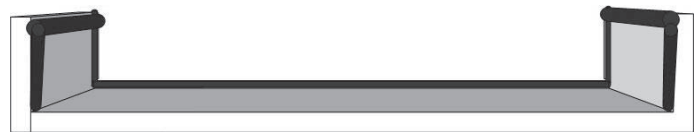

Figure 2
4) Run a continuous 3/8" bead of sealant along the inside edge of the sub sill (where it will meet the inside edge of the door and/or sidelite). Run a 3/8" bead on the inside of the sub sill jambs at 1/2" from the top and down the front. (See Figure 2)